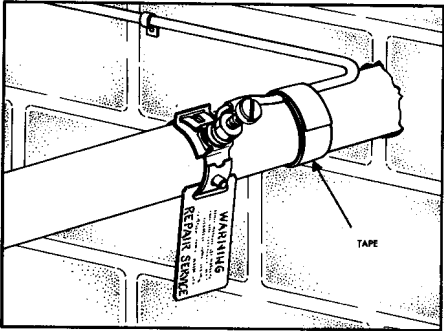

FIGURE 24. Typical Ground Clamp Installation
vibrations, tape the ground wire to the pipe in close proximity to the ground clamp. See Figure 24.
5.04 Figures 24 through 28 show correct installations of the station ground clamp and the L ground clamp.